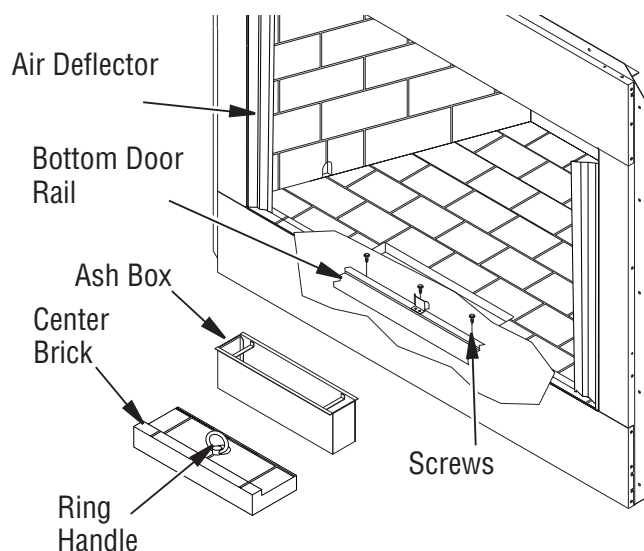

Figure 27 - Installing Bottom Door Frame
Slide air deflector in between the front side face and side brick panel (see Figure 27). The notched end of the deflector sits on bottom hearth. Air deflector does not require any fastening.
The front side faces and side brick panels will hold the deflector in place (see Figure 27).
3. Remove center ash refractory by pulling ring handle (see Figure 27).
5. Remove three screws located at front of firebox (see Figure 27).